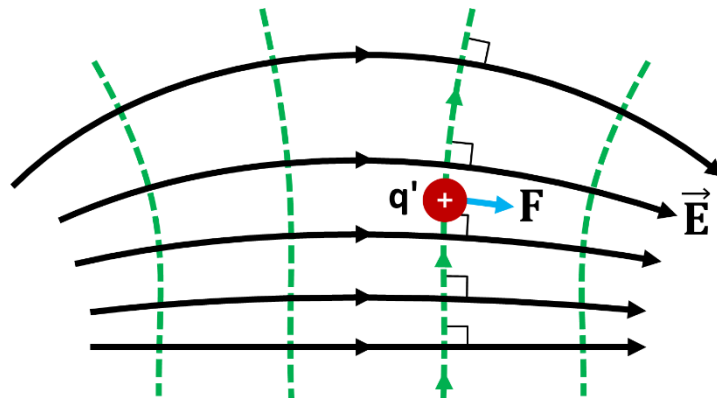

Fig. 2: The electric field does no work on a charge q' that moves along an equipotential path perpendicular to the field.
1. Electric field lines are always perpendicular to the equipotential lines (see Fig. 2).